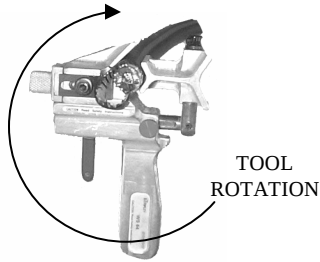

Fig. 8
Step 3. (Fig. 8) Begin jacket stripping by applying a slight downward pressure while rotating the tool around the cable in a clockwise direction. ***If the blade slips out of position during jacket removal, do not attempt to restart stripping process. Cut the cable using a curved cable cutter or hacksaw and start over.***